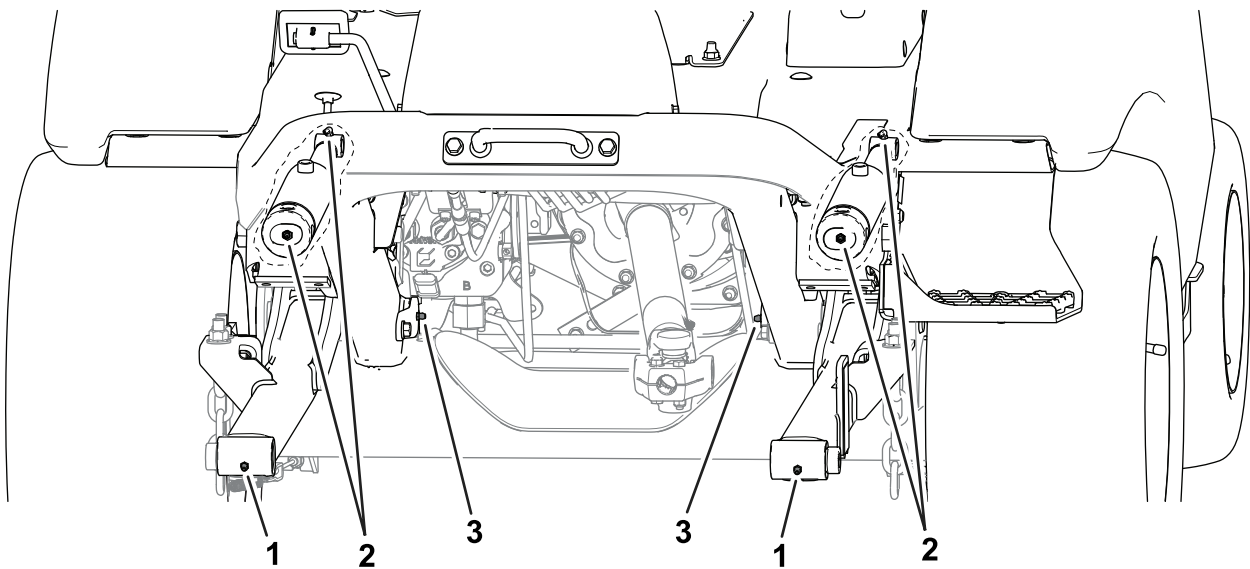

Figure 47
- **Front of the machine (Figure 47):**
- Lift-cylinder bushings (2)
- Lift-arm pin joints (2)